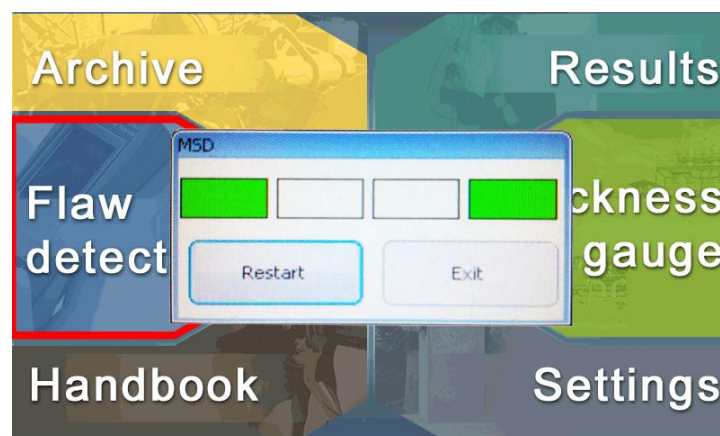

Figure 2.79 – Indication in case of successful connection to PC
*Note – Connection is successful, if two boxes are green on the device (Figure 2.79). If only the right box is green, then USB cable is not connected. If one of the boxes is red, it means that driver was installed with an error or was not installed at all.*